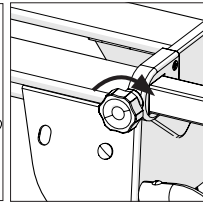

Fig. 3
- Screw the locking knobs in place to secure the guide rails on each side. **(Fig. 3)**